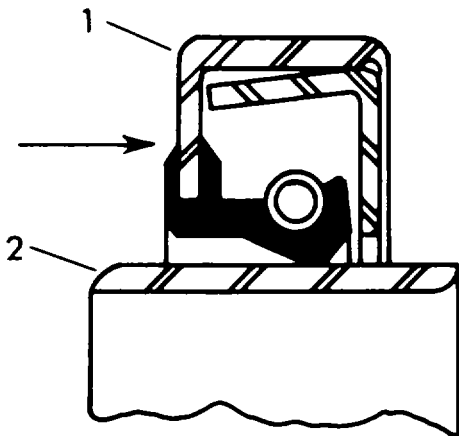

Figure 32. - Assembling Seal to Sleeve
- 3. Assemble seal onto sleeve as shown in Fig. 32 by pushing the seal in the direction of the arrow.
NOTE: Seal must be installed onto side of sleeve with chamfer on O.D. (2, Fig. 32) to avoid damage to seal lip.